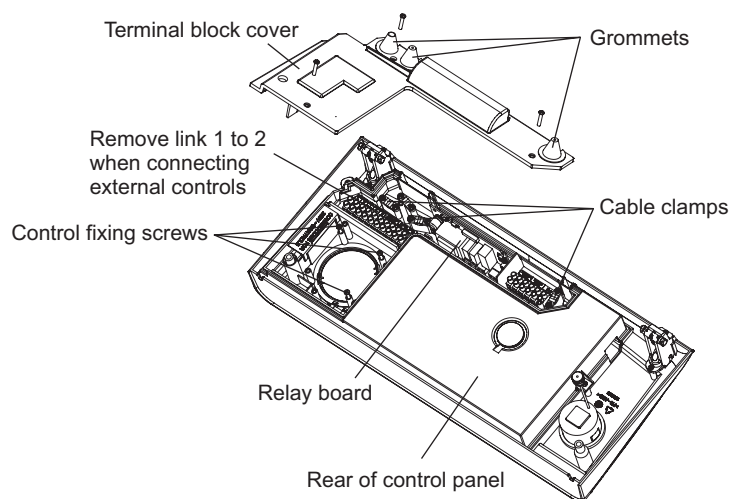

Fig. 4.15
4.11 FIT ALPHA CONTROLS (standard 240 V clock option) - Fig. 4.15